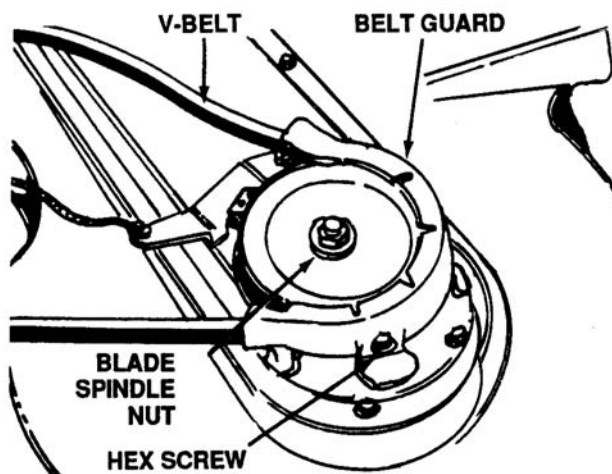

Figure 8-15. Removal and Replacement of Deck Belt
1. Remove two hex screws holding belt guard to timing belt cover. See Figure 8-15.